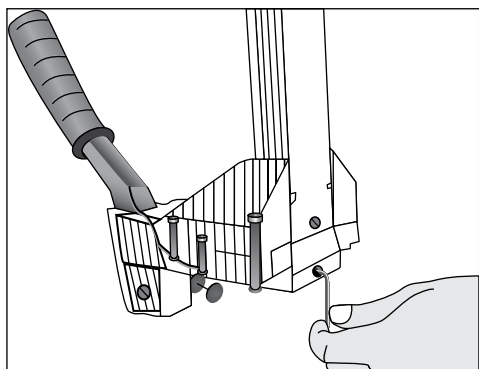

Figure 3
1. Loosen the set screw with a 3mm Allen wrench on the bottom. (See Figure 3)